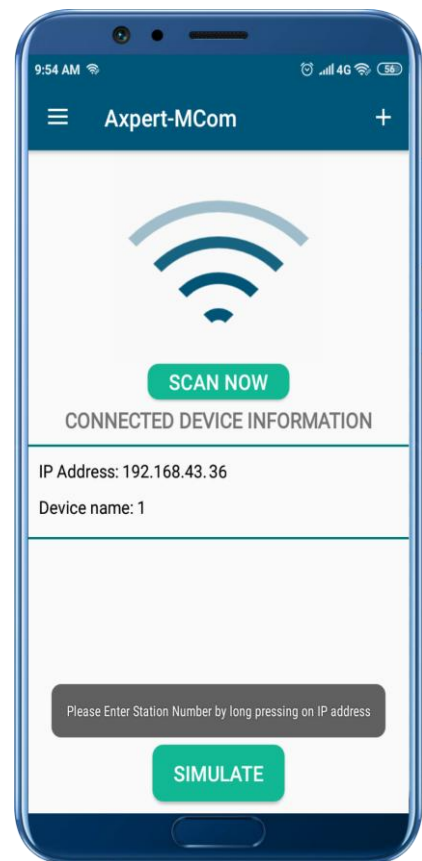

Figure 12: Warning regarding station setting
- If we forgot to configure the station number, a pop-up will be displayed to remind the user to configure it (Figure 12).